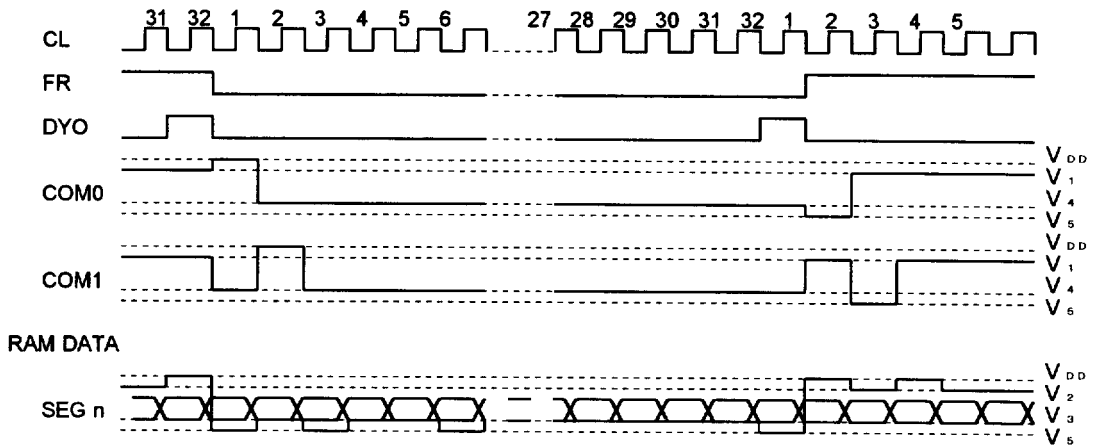

Fig. 2
The common timing and Common synchronizing signal(DYO) is generated by display clock. And the divided signal of oscillation signal is output from CLO terminal. The DYO output "H" pulse just one display clock before to the synchronized signal (FR) changing(refer to Fig.2). The DYO outputs regardless the Master or Slave. When the Slave selection, the duty setting must be adjust to the Master. In case of the Multi-chip application, the FR signal must supply from Master chip. The status of FR, CLO, and DYO are as follows;